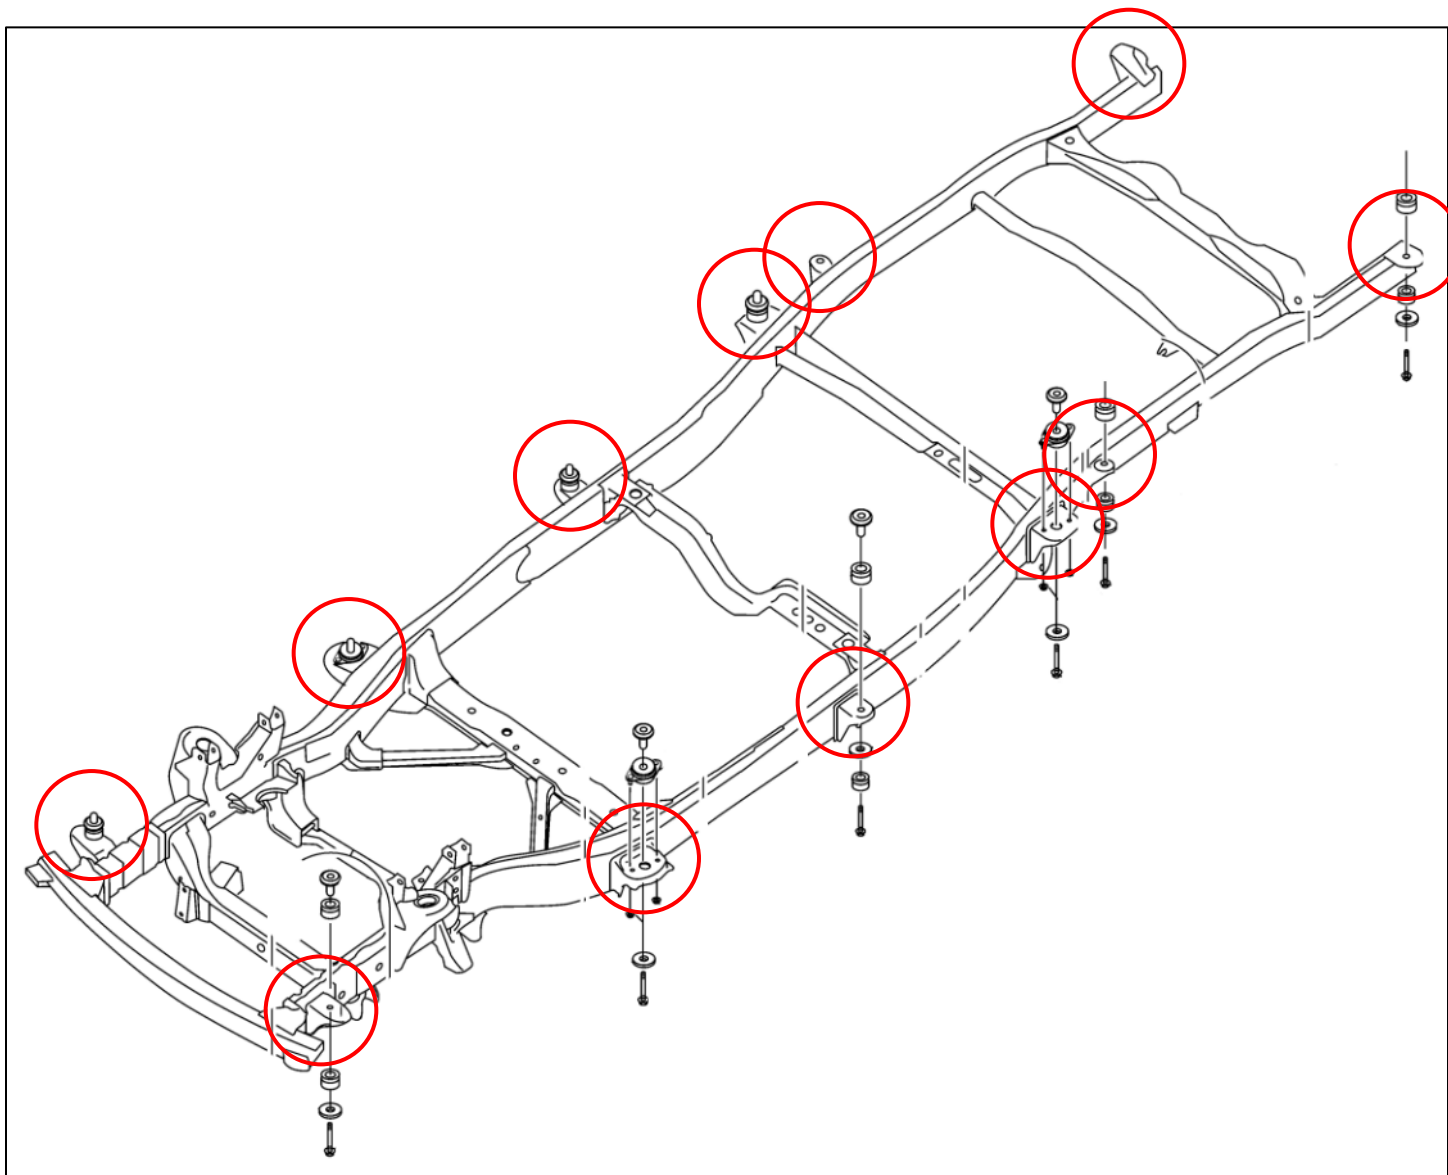

Figure 12
19. Crack loose the (12) twelve OE Frame to Body Bolts, (8) eight for the cab and (4) four for the bed. *Figure 12.*